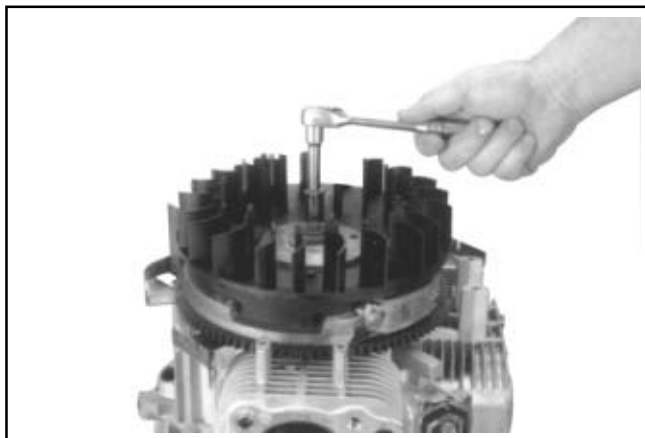

Figure 9-44. Removing Fan.
2. Remove the four hex. flange screws or hex. studs and washers. Remove the plastic fan from the flywheel. See Figure 9-44.